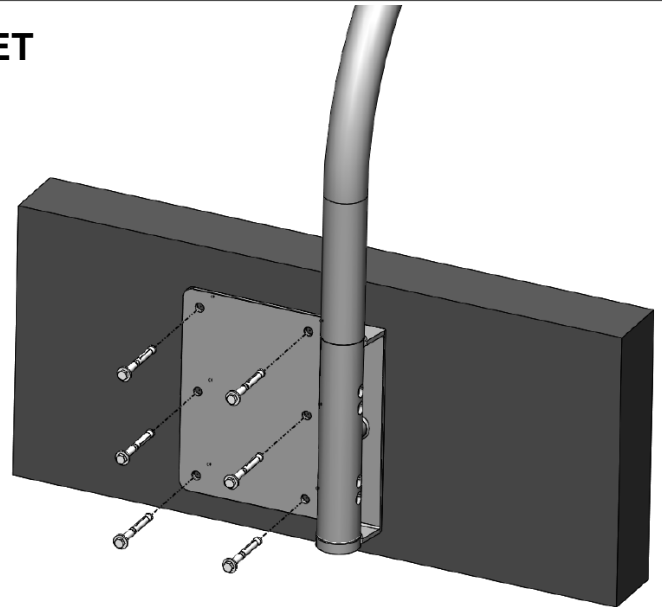

Figure 1
4. Drill (6) pilot holes using masonry bit included in hardware pack.
6. Use hammer to tap (6) masonry anchors through Parapet Mount Base mounting holes as shown in Figure 1